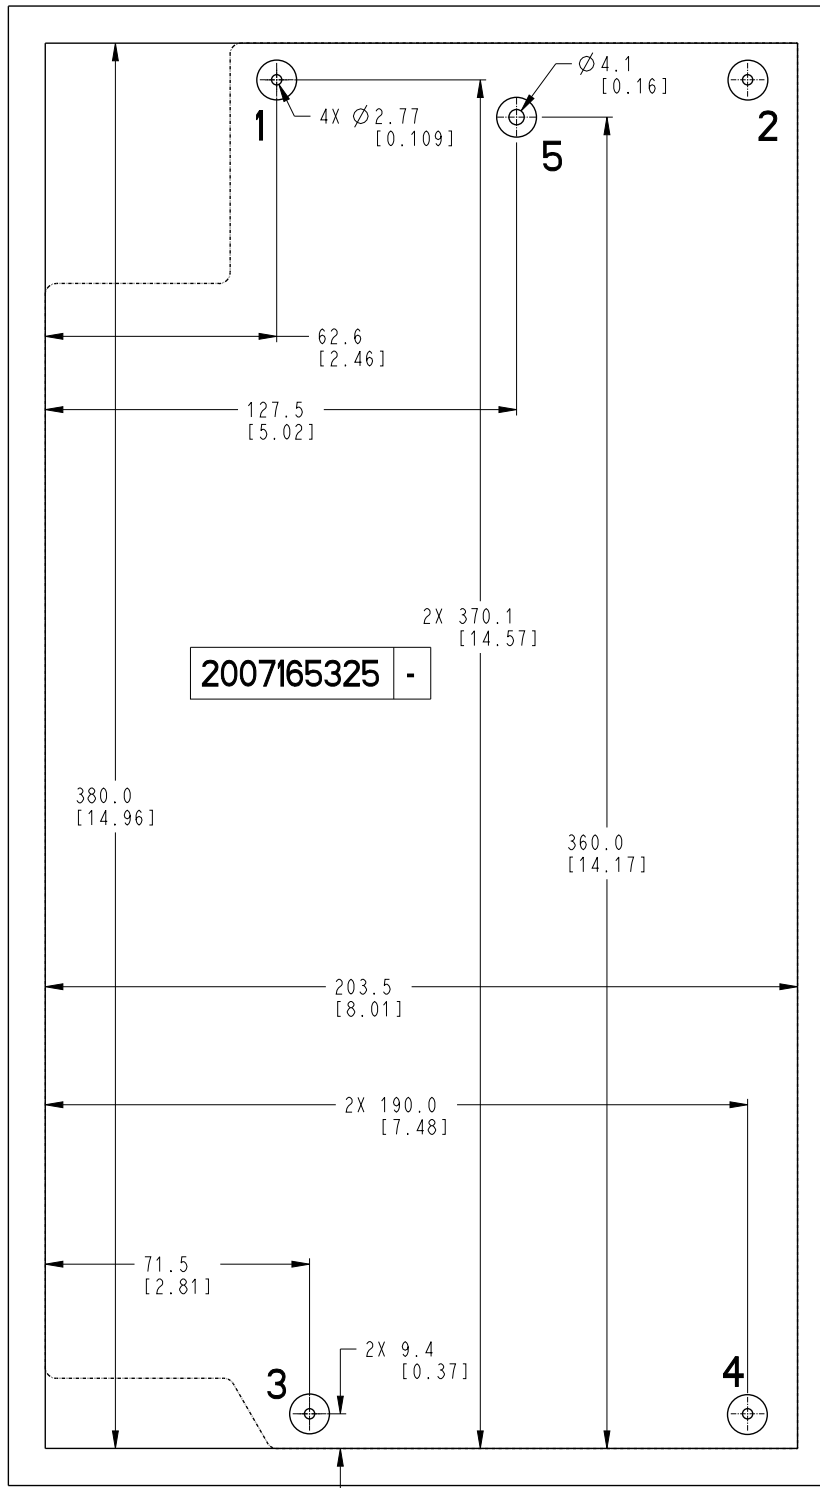

**Fig. 1 — MBB and EXV Board Positions**
1. Remove the Main Base Board (MBB) from the unit shown in Fig. 1. Leave wiring harness in control panel for future use in Step 6.
2. Remove the electronic expansion valve (EXV) board from the unit shown in Fig. 1. Leave wiring harness in control panel for future use in Step 6.
3. Remove the Energy Management (EMM) board from the unit shown in Fig. 1.
4. Remove UPC board from the unit as shown in Fig. 1.